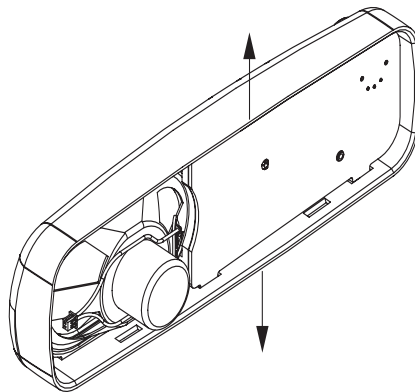
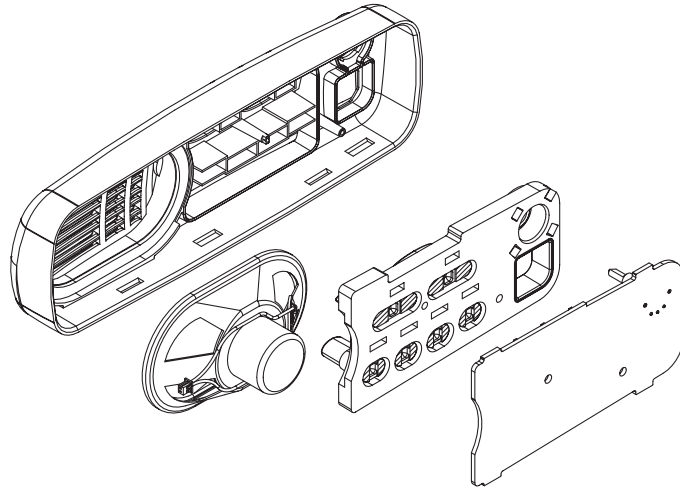

Figure 2-7: Control Head Board Knob Removal
Figure 2-8: Board, Keypad and Speaker Removal
4. Remove the board from the control head housing by stretching the control head housing and pulling up on the board as shown in Figure 2-7 and Figure 2-8.
3. Remove the board from the control head housing by stretching the control head housing and pulling up on the board as described for control head CDM750, Figure 2-8.
1. Locate the speaker in the control head and press it into place as shown in Figure 2-8.